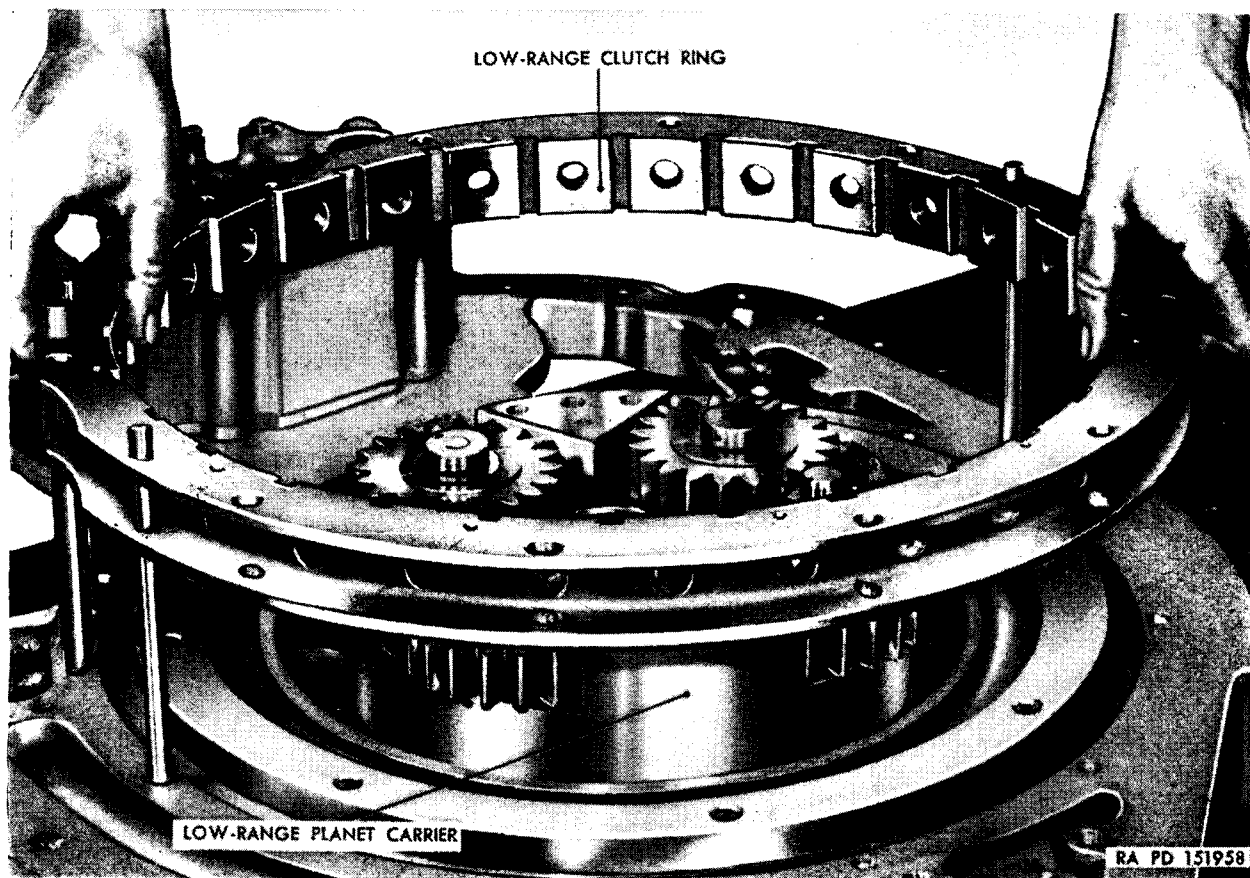

Figure 219. Installing low-range-clutch ring.
- (1) Install the low-range-clutch ring (fig. 219).